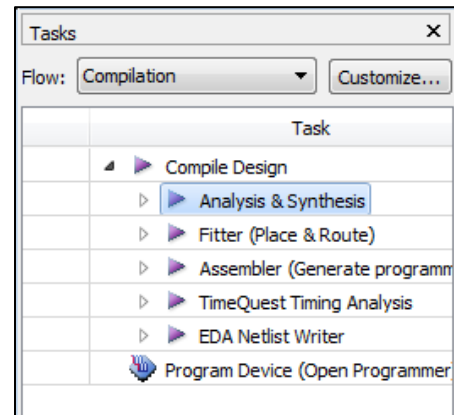

Figure 6: Functional Compile
- To functionally compile your design, double click the “Analysis & Synthesis” in the Compilation window shown in Figure 6.